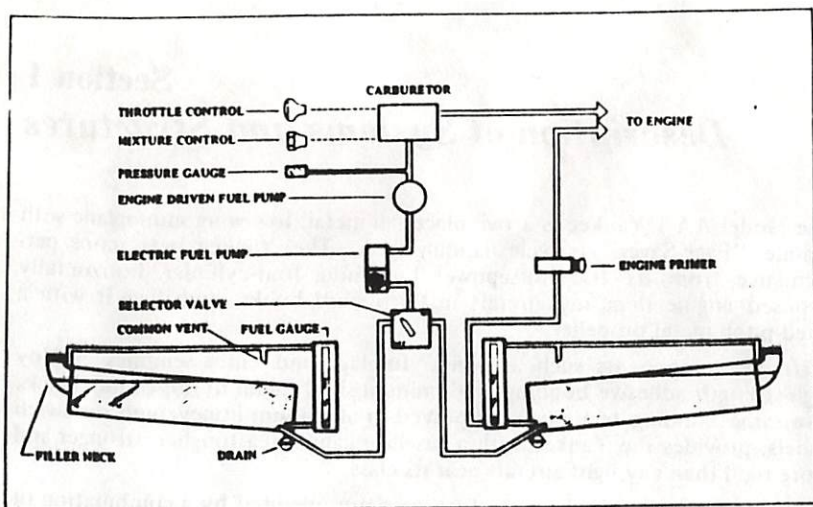

Figure 2. Schematic of Yankee's Fuel System.
**Fuel System:** Yankee's fuel system (Fig. 2) is one of the simplest, and therefore one of the most reliable, in aviation. The tubular main wing spar also serves as a two-cell fuel tank, with each cell holding 11 gallons (usable) or 12 gallons (total). The 22 useable gallons are managed by a fuel selector valve on the center console, clearly marked OFF-LEFT-RIGHT. Fuel quantity is reliably indicated in vertical sight gauges on the left and right cabin walls.